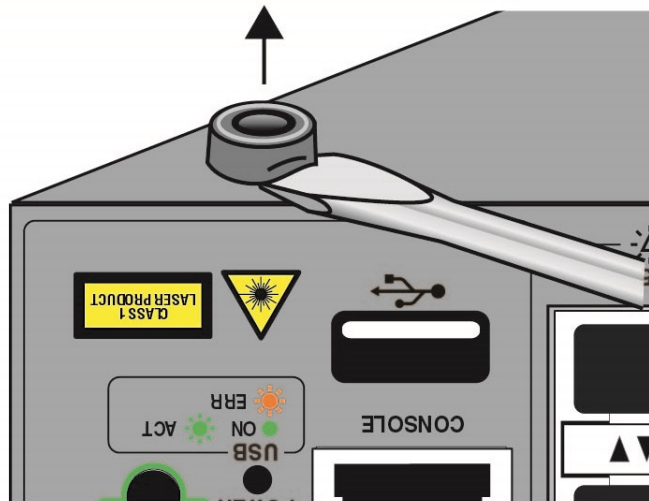

Figure 86. Removing the Bumper Feet
2. Use a small flat-head screwdriver to gently pry the feet from the bottom of the switch. Refer to Figure 86.